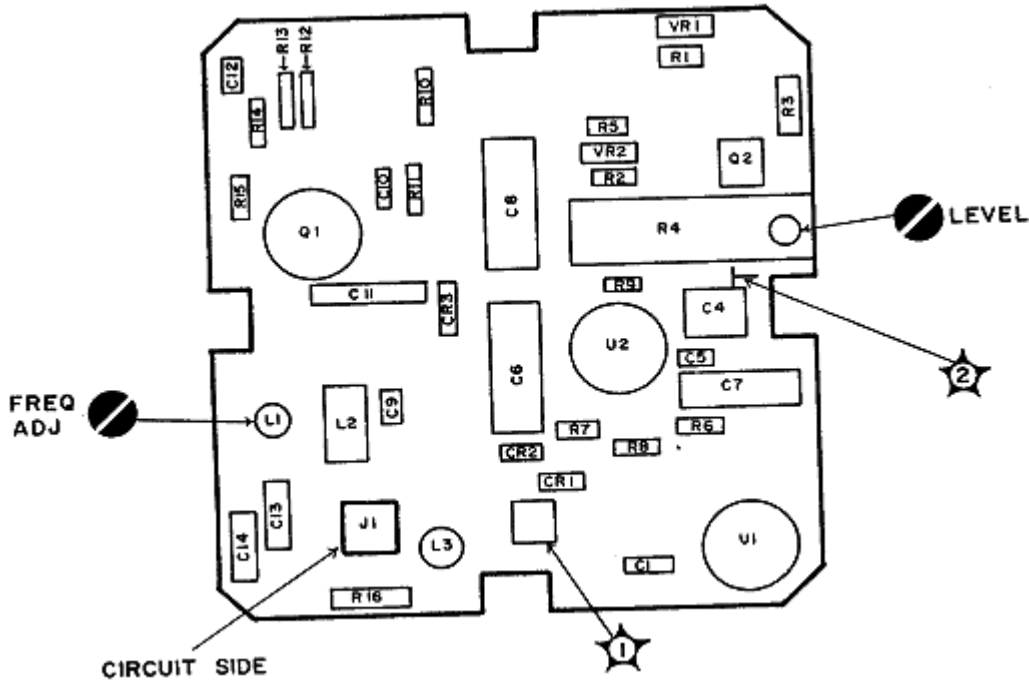

Figure 5. REF FREQ and LEVEL adjustments.
- (2) Grasp power reference oscillator assembly firmly, and remove four screws which secure it to power meter chassis.
- (3) Tilt power reference oscillator assembly to gain access to circuit board underneath metal cover, and adjust A8L1 (FREQ ADJ) (fig. 5) to obtain a 50.00 MHz indication on counter (R).
(13) If calculated PRF is not between 0.993 and 1.007 mW, perform **b** below.
b. Adjustments. Remove TI top cover and set TI **POWER REF** switch to **ON** (in) and adjust LEVEL ADJUST A8R4 (model 436A) (models 435A and 435B) (fig. 5) so that calculated PRF in **a** (13) above is 1 mW.